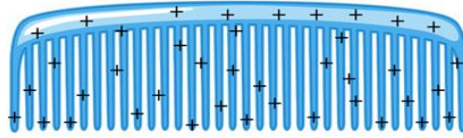

Fig. 1.20 Comb having positive charge
Step 1 – Take a plastic comb. Figure 1.20 illustrates a comb and it is made up of plastic which is an insulator. Insulators have a positive charge and it is difficult to extract electrons from the insulator.